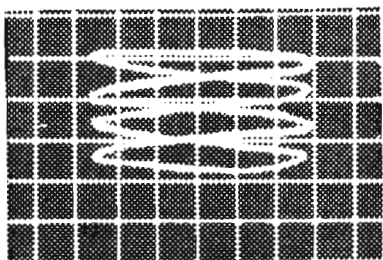
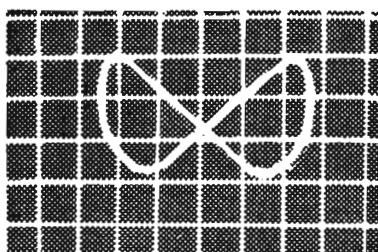

Figure 6a: Reference 2 octaves above Oscillator being calibrated
Figure 6d: Reference 1 octave below
- 8) VCO #1 SCALE - Press the lowest C (left-most key) and adjust the front panel PITCH control for a stable lissajous indicating that the frequency of the #1 oscillator is two octave below the reference oscillator as shown in figure 6a.
Press the highest C (right-most key) and adjust the #1 SCALE trimmer R12 for a stable lissajous display showing the oscillator to be an octave above the reference as illustrated in figure 6d.
When you now press the lowest C again, you will undoubtedly find that the display is spinning. Readjust the front panel PITCH control to produce a stable display as in figure 6a, and once again press the high C and re-adjust R12. Continue this procedure of hitting the low C and adjusting PITCH and the high C and adjusting R12 until a satisfactorily stable display appears at both keys.
- 9) KEYBOARD TRANSPOSE - Press the lowest C on the keyboard and verify a stable display as in figure 6a. If necessary, adjust the front panel PITCH control for maximum stability.
Turn the front panel KEYBOARD OCTAVE switch to its most CW position (3) and adjust trimmer R43 for a stable display as illustrated in figure 6d. Verify that the (1) and (2) settings of the KEYBOARD OCTAVE front panel switch produce the displays shown in figures 6a and 6b respectively.
- 10) VCO #1 HIGH END - With the KEYBOARD OCTAVE front panel control set to its maximum CW position (3), press the highest C on the keyboard and adjust trimmer R9 (#1 HIGH) for a stable display. An example of the display is not shown, but if you are in doubt there will be 16 "points" on the top of the display indicating that the VCO is 4 octaves above the reference oscillator.